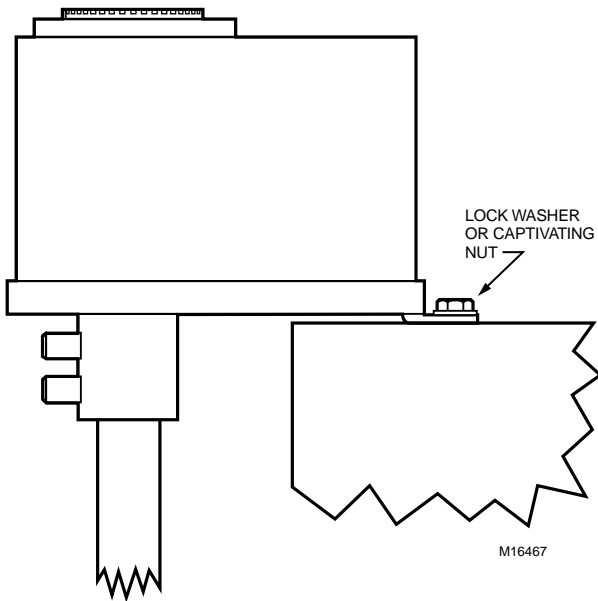

Fig. 2. Mounting ML7999.
1. Place the actuator over the shaft, see Fig. 2.